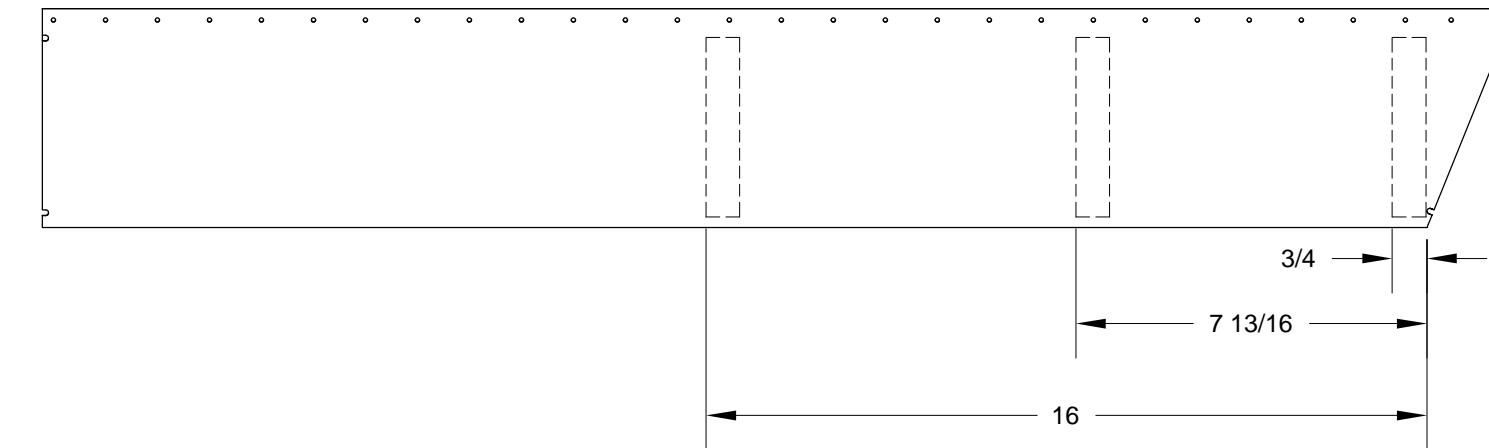

FIGURE 3: TRIM TAB RIB LOCATIONS
Step 7: Mask the inside of the skin for the foam ribs at the locations shown in Figure 3, then prime all the parts in preparation for final assembly.